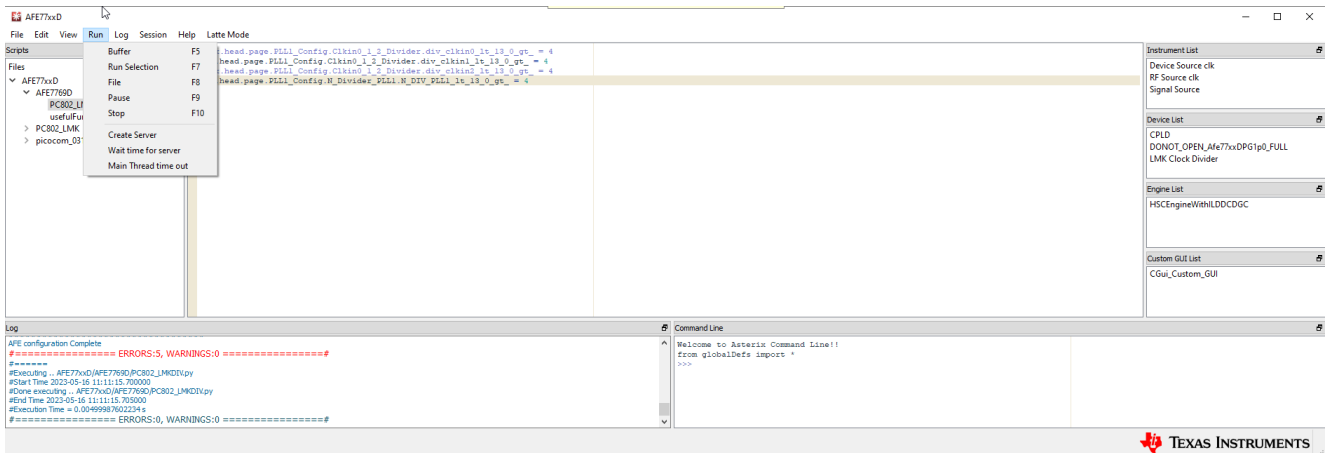

Figure 3-7. Running the RNS802 Script
5. Run the script by pressing F5 or by clicking Run > Buffer. An output in the log window like that shown in Figure 3-7 signals that the script was run with no errors. After running this script, the LMK_LOCKED LED (D11) turns on if the 122.88MHz reference from the RNS802 is connected.